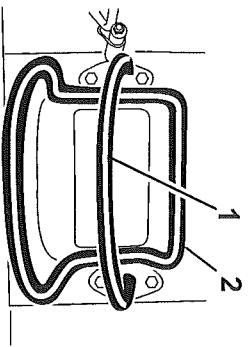

Figure 6
- To stop, release the traction control (Figure 6).